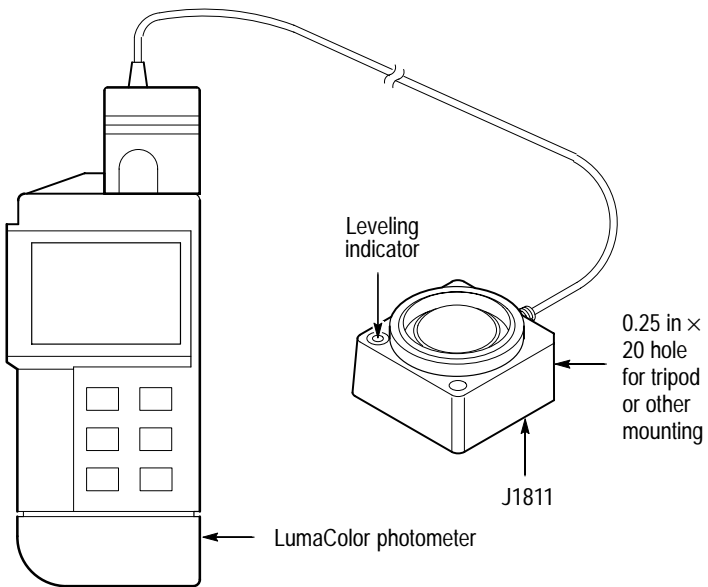

Figure 1–19: J1811 setup for illuminance measurements
3. Position the J1811 on the surface to be measured. Refer to Figure 1–19.